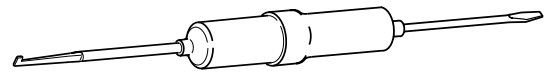

Figure 5-10. Deutsch Connector Pick Tool (Part No. HD-41475-100)
1. Remove the secondary locking wedge. Use the hooked end of a stiff piece of mechanics wire or a needle nose pliers, or a suitable pick tool (Part No. HD-41475-100). See Figure 5-10.